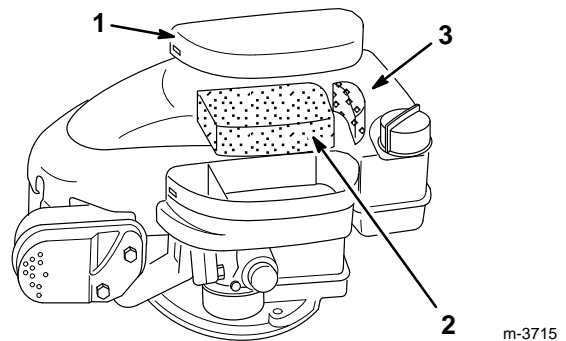

Figure 15
1. To remove the pre-cleaner and air filter, unsnap the cover latch and remove the cover, pre-cleaner, and air filter (Fig. 15).